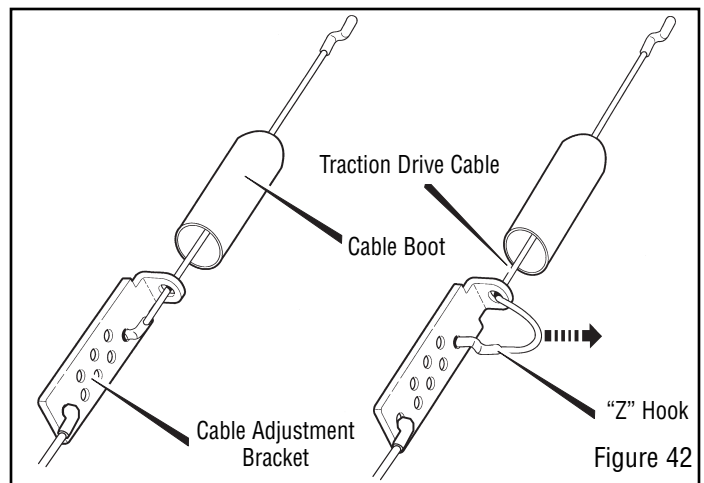

Figure 42
5. Slide the **cable boot** off the **cable adjustment bracket** (see Figure 42).